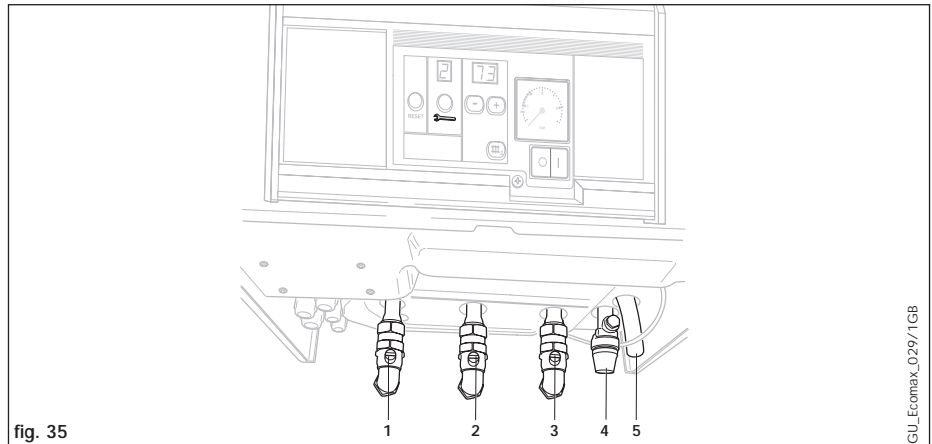
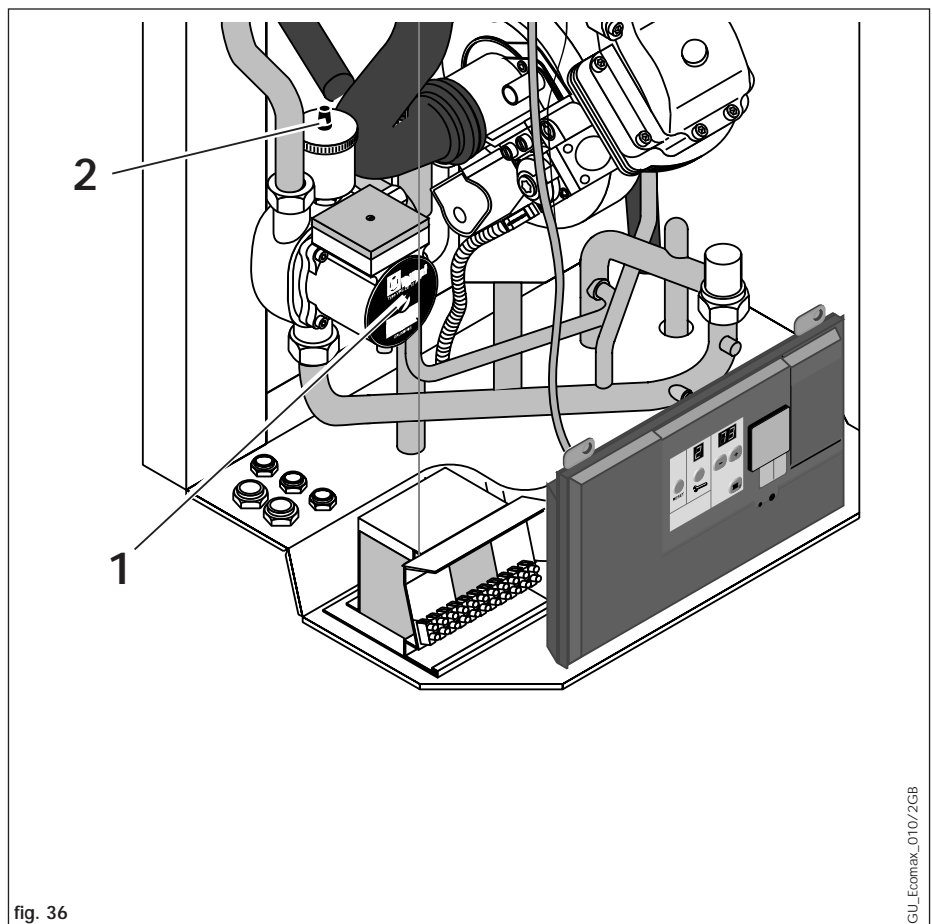

fig. 35
fig. 36
The gas supply to the boiler can be purged by slackening the gas service valve beneath the boiler (2, fig. 35). Ensure that there is adequate ventilation, extinguish all naked flames and do not smoke whilst purging.
Ensure that the boiler CH service valves (1 and 3, fig. 35) are open. Partially open the filling valve and allow water to enter the system. Starting with the lowest radiator, open the radiator air release until water (clear of bubbles) is emitted. Repeat this at all radiators until the complete system is full, all air locks have been cleared and the boiler pressure gauge reads 1.5 bar. Release any air from the pump by slackening the centre screw (1, fig. 36).
The boiler is equipped with an automatic air release valve. To allow this to vent the boiler, the cap on top (2, fig. 36) must be slackened by 1-2 turns. (This cap must be left slackened during boiler operation to ensure any residual air or system gases are released).
Check the operation of the pressure relief valve by rotating the knob on the valve (4, fig. 35).
- Open the gas service valve (2, fig. 35).
- Check that the CH service valves (1 and 3, fig. 35) are open.